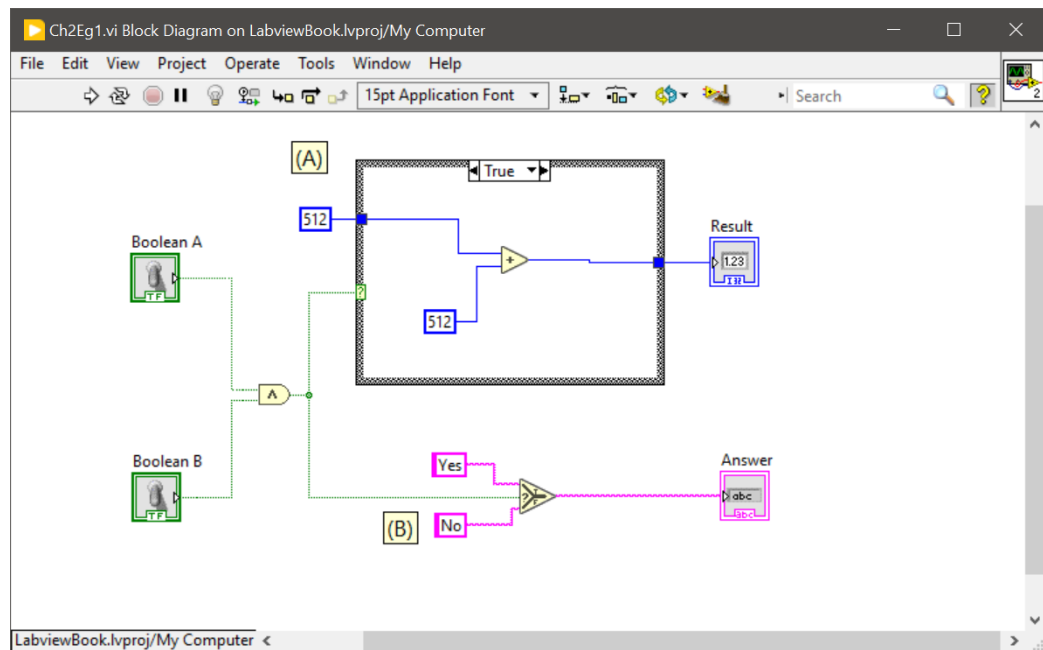
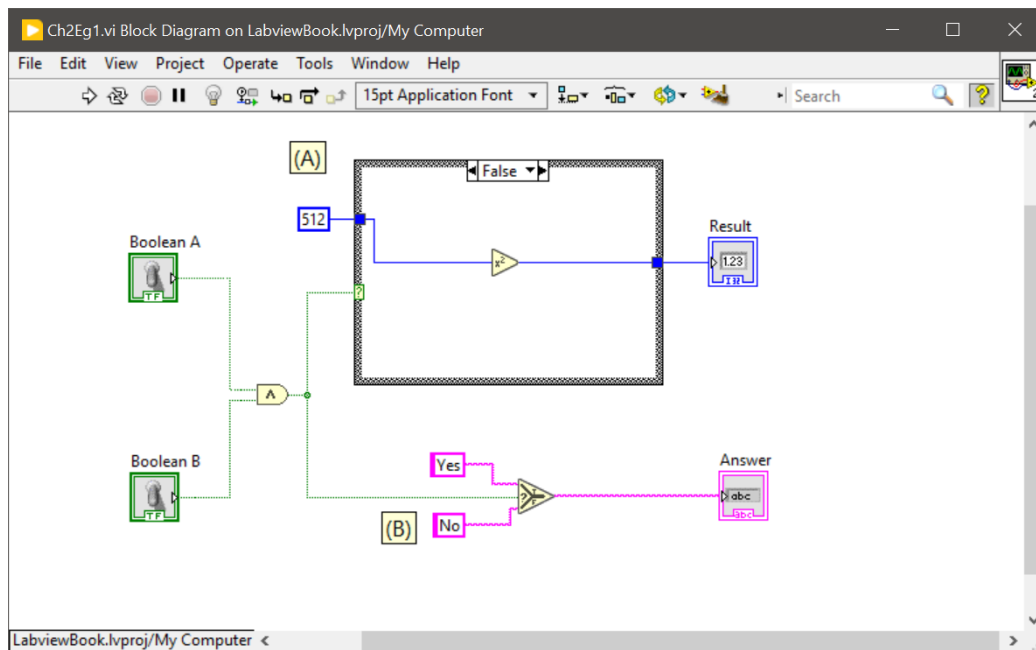

Figure 2.1: A case structure showing its truth block (A), and a ternary operator (B).
Figure 2.2: A case structure showing its false block (A), and a ternary operator (B).
The case structure executes a block of code according to its input condition. In LabVIEW, the input condition may be either a boolean value, an enumeration, or an error value. Figure 2.1 (A) shows how a case structure looks, a thick grey box with a green ? and a selection box stating “True”. What ever is inside this grey box will be executed if a boolean true value is wired into the conditional terminal, the green ?. Figure 2.2 shows what would be executed if the condition is false.
Comparison functions in LabVIEW produce only boolean values, this you have seen in the examples so far. Feeding these boolean values into case structures allow you to select different operations to be preformed. The example provided in figures 2.1 & 2.2 show how you would choose two different operations on an integer. If the condition is true, 512 is added to the input
The plural in the title is misleading, there is only one ternary operator in LabVIEW. Figure 2.1 (B), on page 22, is this little function in action. You supply it with a boolean value and outputs either its truth or false value. In this example, if the boolean value is true, then the ternary operator outputs the string “Yes”.